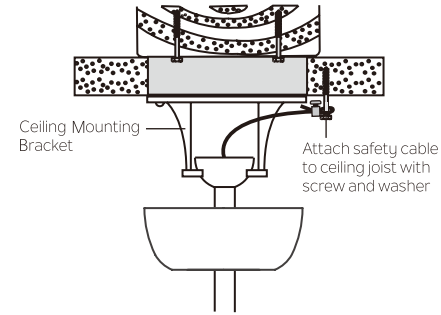

Fig. 11
Step 1. Attach the wood screw and washer to the ceiling joist next to the mounting bracket but do not tighten. (Fig. 11)